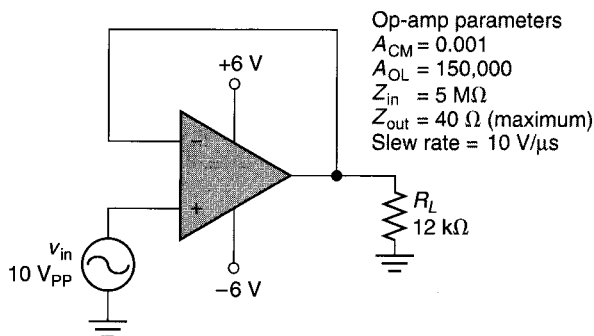

FIGURE 15.65
23. Perform a complete analysis of the voltage follower in Figure 15.65.